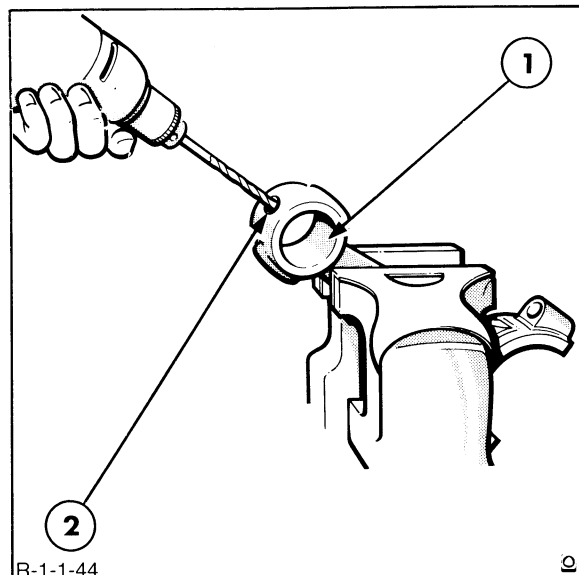

FIGURE 1-46
6. After installation of a new connecting rod bushing, use the hole in the top of the rod as a guide and drill a 0.25" (6.4 mm) diameter hole through one wall of the bushing, Figure 1-46.